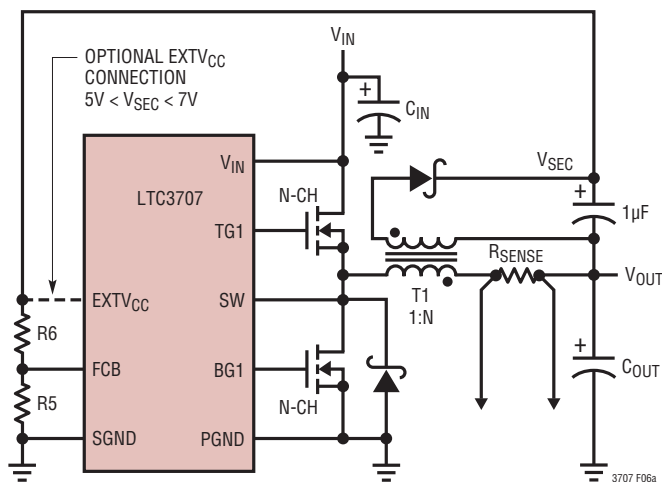
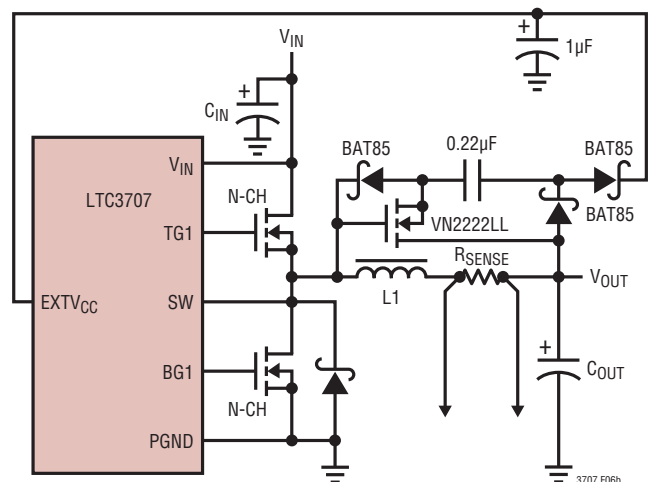

Figure 6a. Secondary Output Loop & EXTV_{CC} Connection
Figure 6b. Capacitive Charge Pump for EXTV_{CC}
4. EXTV_{CC} Connected to an Output-Derived Boost Network. For 3.3V and other low voltage regulators, efficiency gains can still be realized by connecting EXTV_{CC} to an output-derived voltage that has been boosted to greater than 4.7V. This can be done with either the inductive boost winding as shown in Figure 6a or the capacitive charge pump shown in Figure 6b. The charge pump has the advantage of simple magnetics.
The secondary output voltage V_{SEC} is normally set as shown in Figure 6a by the turns ratio N of the transformer: